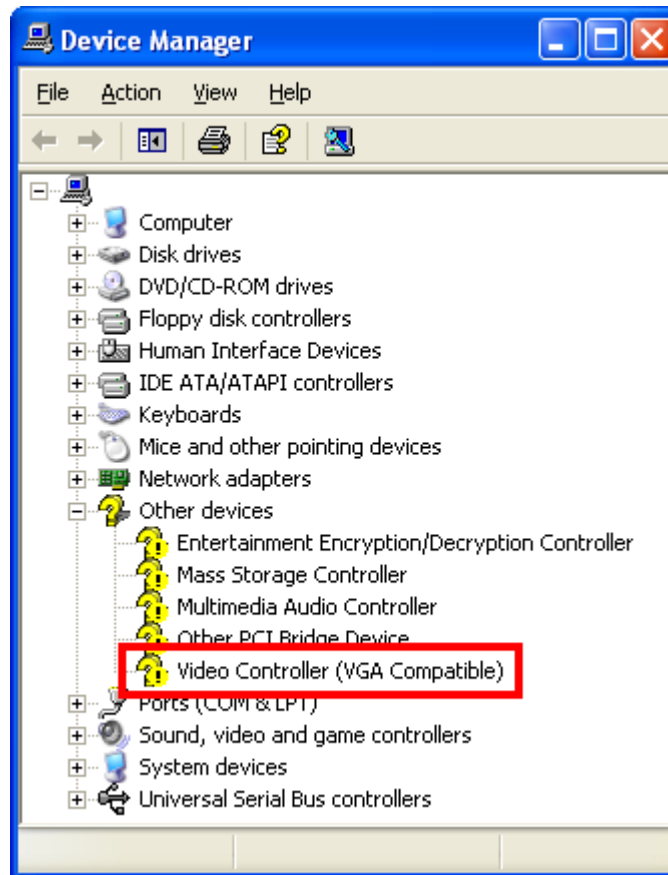

Figure 7-6: Device Manager List
Step 4: A list of system hardware devices appears (Figure 7-6).